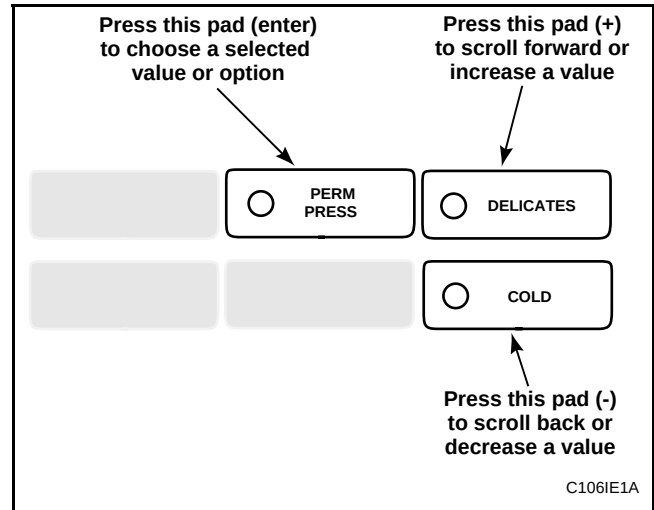

Figure 102
5. Press the DELICATES (+) or the COLD (–) keypad to increase or decrease the month until correct. See **Figure 102**.